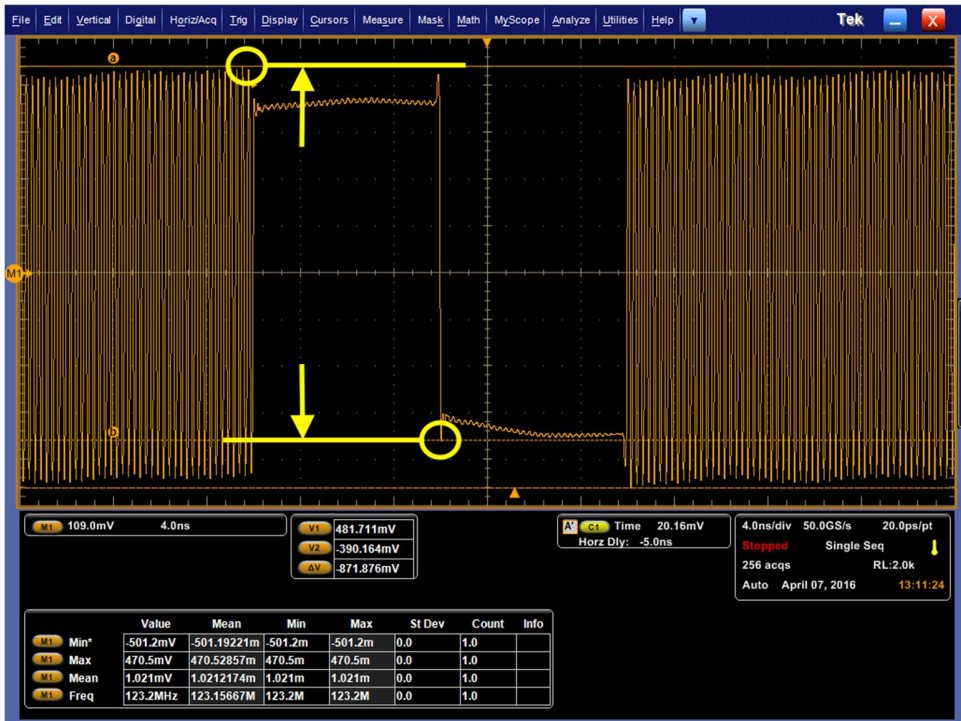

FIGURE 58. MEASURED TRANSITION AMPLITUDE (EXAMPLE 825mVpp)
- 1. Using cursors, measure the peak-to-peak transition amplitude as shown Figure 58.